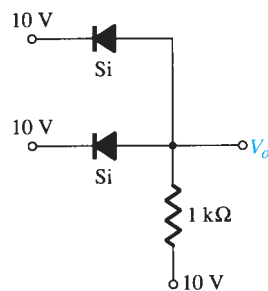

FIG. 2.166
20. Determine the level of V_o for the gate of Fig. 2.166.